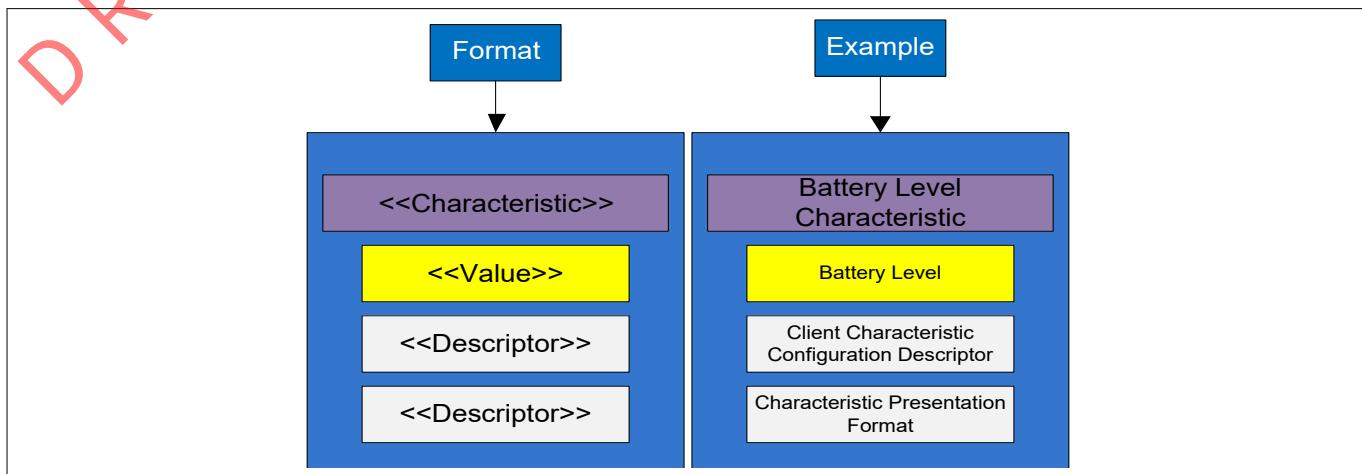
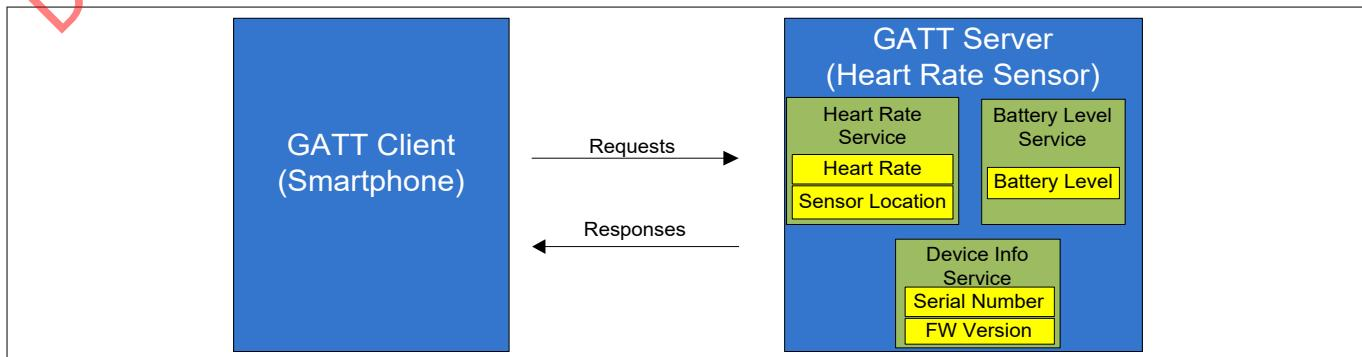

Figure 126 Characteristic format and example
Figure 129 GATT Client-Server architecture
Figure 126 shows the structure of a characteristic with Battery Level as an example.
- The first part of a characteristic is the declaration of the characteristic (it marks the beginning of a characteristic) indicated by the Battery Level Characteristic in Figure 126
- Characteristic descriptors provide additional information that is required to make sense of the characteristic value. For example, the Characteristic Presentation Format Descriptor for Battery Level indicates that the battery level is expressed as a percentage. Therefore, when “90” is read, the GATT Client knows this is 90 percent and not 90 mV or 90 mAh. Similarly, the Valid Range Characteristic descriptor (not shown in Figure 126) indicates that the battery level range is between 0 and 100 percent
- **Read request:** The GATT Client sends this request to the GATT Server to read an attribute value. For every request, the GATT Server sends a response to the GATT Client. A smartphone reading the Battery-Level Characteristic of a heart-rate monitor device (see Figure 126) is an example of a Read Request
Figure 129 shows the client-server architecture in the GATT layer using a heart-rate monitoring device as an example. The heart-rate monitoring device exposes multiple services (HRS, BAS, and Device Information Service); each service consists of one or more characteristics with a characteristic value and descriptor, as shown in Figure 126.